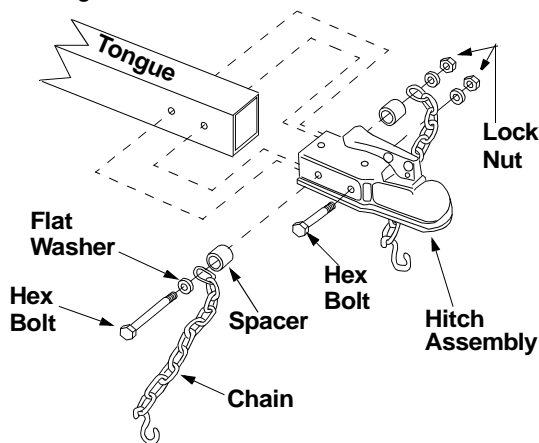

Figure 4
- Insert hex bolt through flat washer, end of safety chain, spacer, and then rear hitch hole. Pivot the end of safety chain so it faces the ball end of hitch. See Figure 4.
- Insert other spacer, safety chain, and flat washer on the other end of the hex bolt and secure with hex lock nut. See Figure 4.